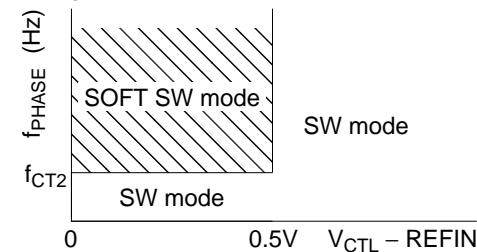

Figure 3
5. The circuit operates in soft switching drive mode only when the control input (Vctl) is lower than f_{CT2} and f_{PHASE} is higher than the threshold voltage. See figure 3.